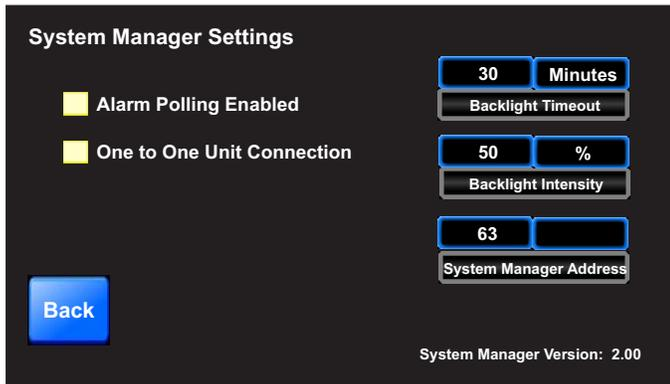

Figure 15: System Manager Settings Screen
NOTE: System Access will automatically default to System Secured after time set for **Backlight Timeout** in the *System Manager Settings Screen* (see **Figure 15, page 17**). If timeout is set to zero, the passcode will timeout after two minutes.
From the *Main Screen*, touch the <Settings> icon. The *System Manager Settings Screen* will appear. See **Figure 15**.
1. **Alarm Polling Enabled** must be selected in the *Systems Settings Screen* (see **Figure 15, page 16**).